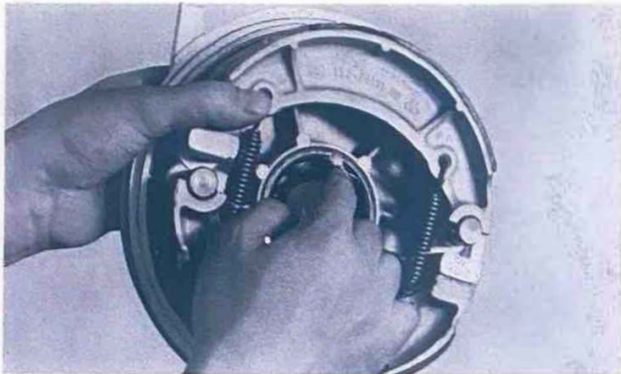

Fig. 16
8. Apply a light coat of grease to the speedometer drive gear and oil seal. (Fig. 16)